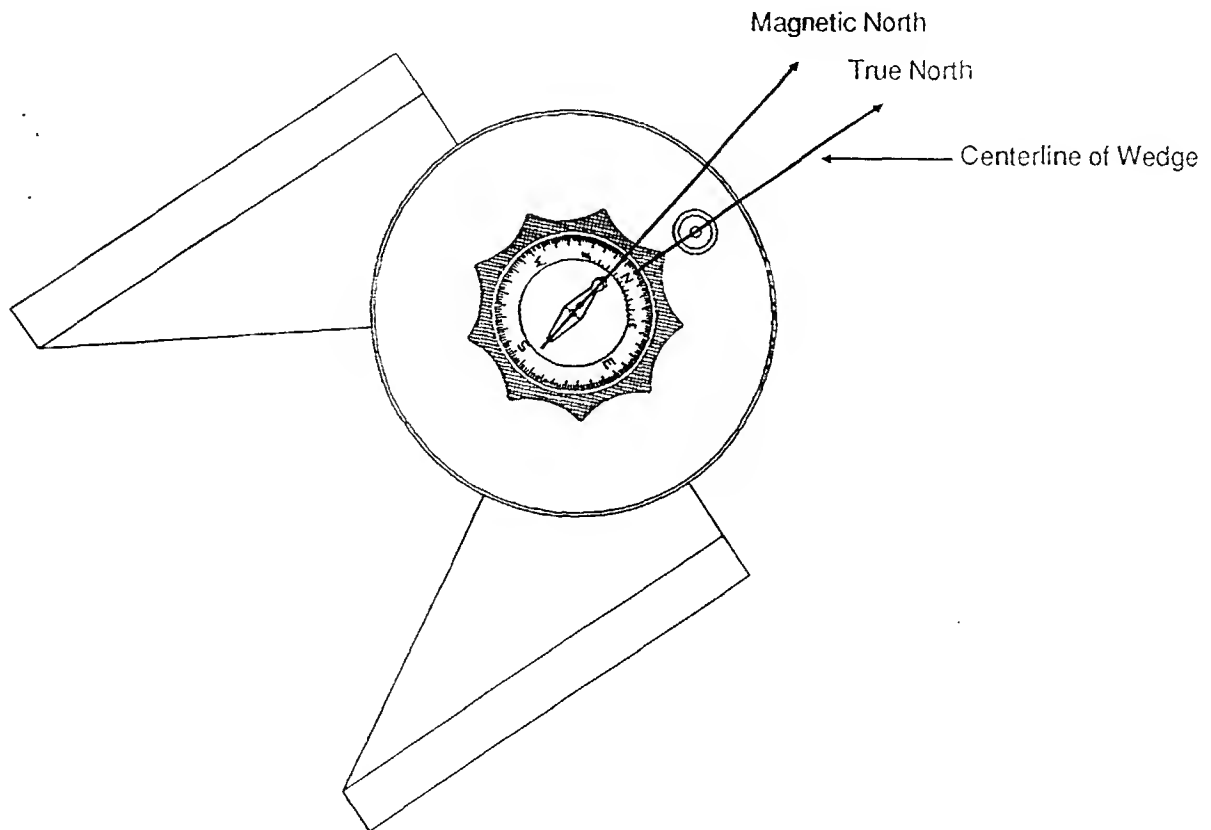

Fig. 7: Equatorial Wedge
3. By rotating the Equatorial Wedge in azimuth, position the point of the knob/compass so that it points directly to the center of the bubble level (Fig. 7). The centerline of the Equatorial Wedge now falls directly on the true north line.